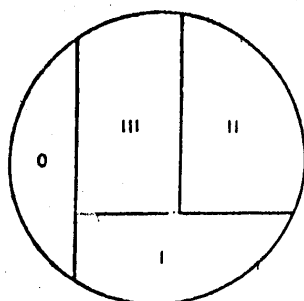

FIGURE 8-7
- 2- Turn the petri dish upside down, and mark it *on the bottom* with the wax pencil as shown in Figure 8-7.